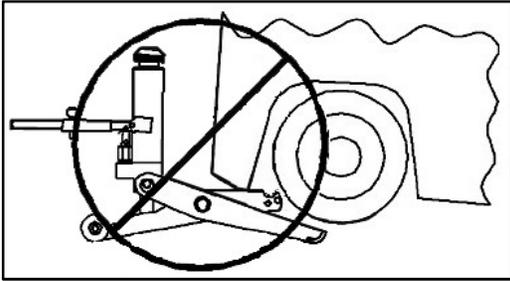

Fig. 8: Only use the notch/lift pad to lift forklift
- ⚠ Never use any other area on the jack as a contact point (Fig. 8).